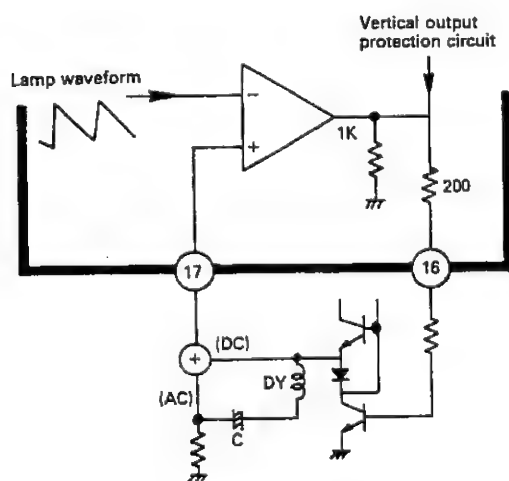

Figure 28.
Fig. 28 shows the vertical output circuit. The lamp waveform signal is amplified in the amplifier (about 45 dB), the output of which is sent to pin ⑱. This signal output is enabled with the current consumption as low as about 15 mA, to meet the operation of SRPP circuit. AC and DC components of the output signal are made together to be fed back to pin ⑰.
If the power supply voltage (at pin ⑳) of the IC goes up too high due to something abnormal, the vertical protection circuit works to prevent the voltage at pin ⑱ from lowering down excessively, so that the output capacitor ("C" in Fig. 28) is protected against damages by the higher voltage.